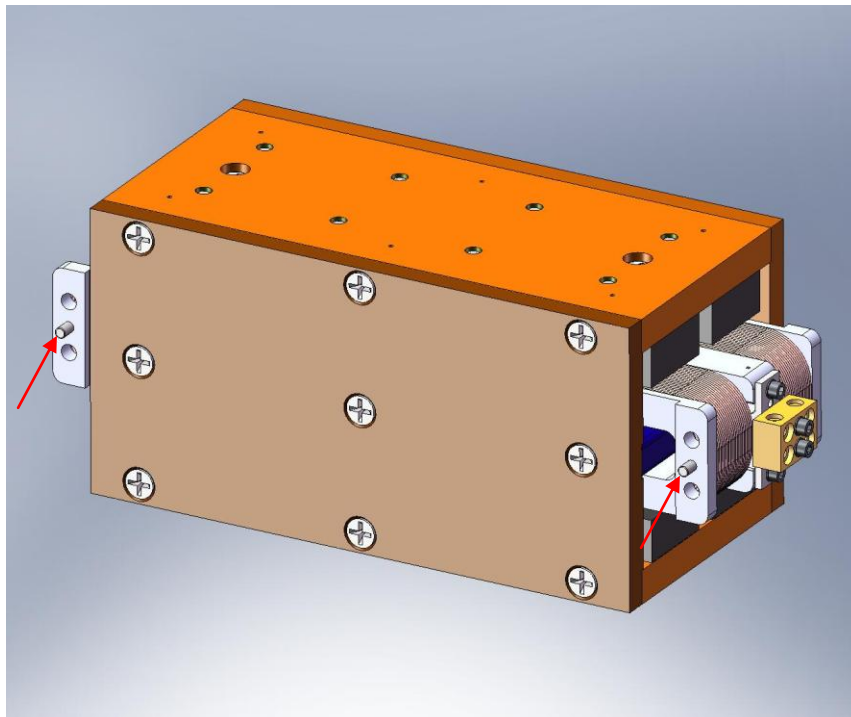

Figure 3.16. Carefully press (2) pins into the Bobbin. Note these pins go into the side opposite the Field Assembly dowel pins (see next step).
- Press (2) 1/8”x.375” dowel pins into the **PSI Actuator Bobbins**, as shown in Figure 3.16. The pins should remain proud of the **Bobbin** surface by .195” +.010”/-0. *Do not touch the coil wires with these pins! Use care when pressing the pins, to avoid yielding the Aluminum.*